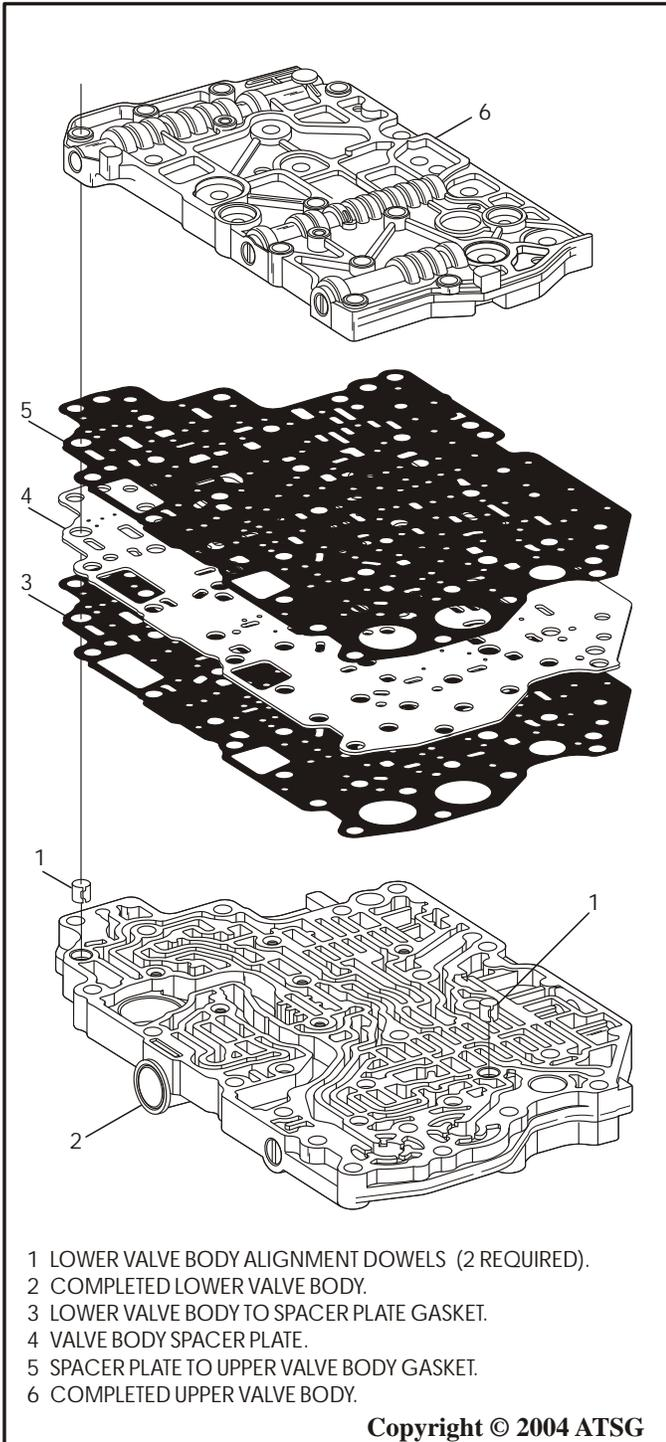

Figure 105
7. Lay the completed lower valve body on a flat work surface, as shown in Figure 105.
8. Install the two valve body dowels, as shown in Figure 105, if you have not already done so.
9. Install the lower valve body to spacer plate gasket over dowels and onto lower valve body, as shown in Figure 105.
10. Install the valve body spacer plate over dowels onto lower valve body, as shown in Figure 105.
11. Install spacer plate to upper valve body gasket over dowels onto spacer plate (See Figure 105).
12. Install the completed upper valve body over dowels and onto the upper gasket, as shown in Figure 105.